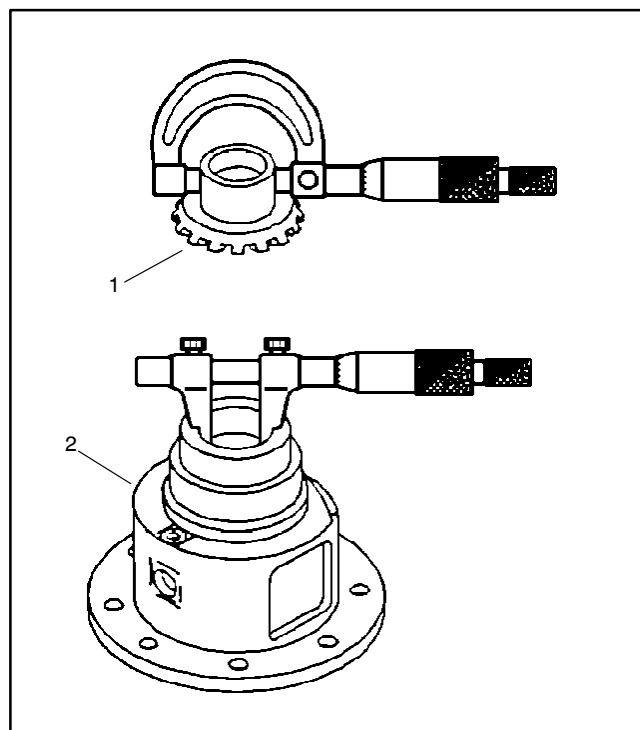

Figure 25
1. Measure the differential side gear O.D. and the differential case I.D. to determine the side gear to case clearance (Fig. 25). Replace components as necessary.